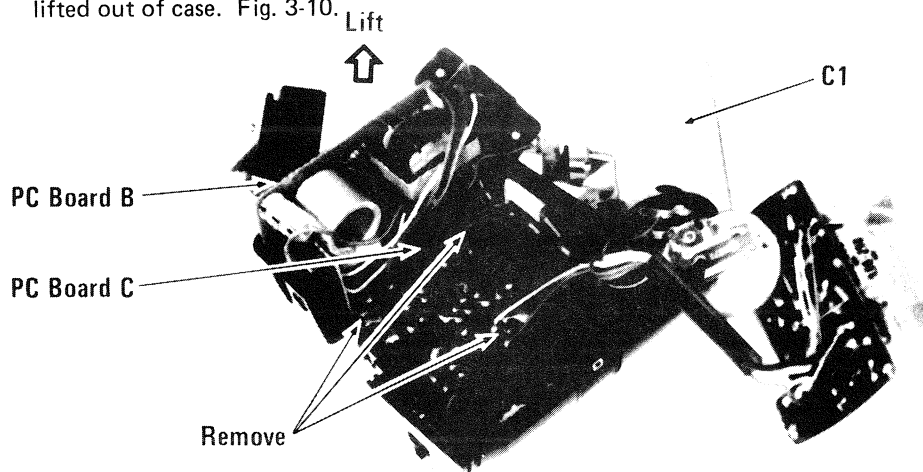

Figure 3-10. PC Board B and C Removal
- M. Remove main capacitor C1 by carefully breaking glue band and lifting out of case as shown. Fig. 3-10.
- N. Remove three screws from PC board C. Slide PC board B out of grooves. PC board C can now be lifted out of case. Fig. 3-10.